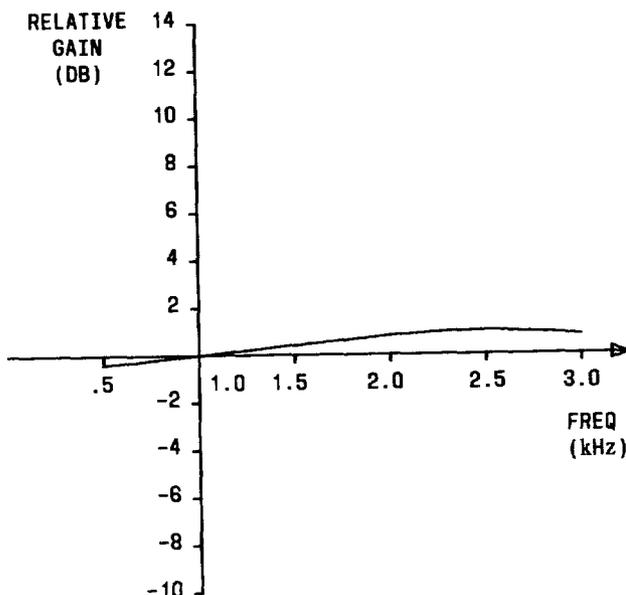

Fig. 4—Amplifier Frequency Response
**4.02** Figure 4 gives the gain frequency response for the J99343PL (L1 and L2) repeaters.